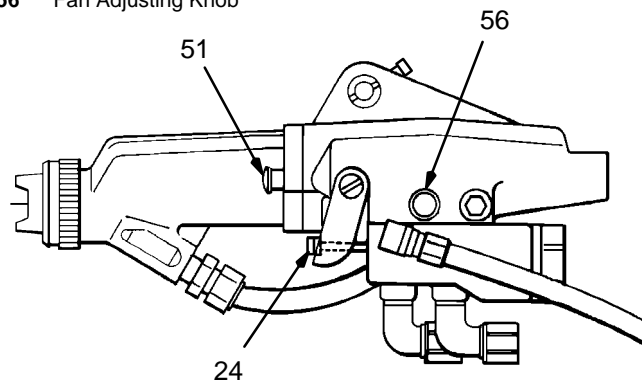

Fig 4
When spraying, the ES indicator lights (BB) should glow, indicating the electrostatic charge. See Fig 4.
2. For fine adjustment of how much fluid is sprayed, tighten or loosen the trigger adjusting nut (24). See Fig 4. Turn the nut *out to reduce* the amount of fluid sprayed or turn it *in to increase* the amount.
3. Close the fan adjusting knob (56) by turning it fully *clockwise*.
6. First, complete all the checks under the **Operating Checklist** on page 9. Then turn the turbine air on. When spraying, the *ES indicator light* (51) should glow, indicating the electrostatic charge.